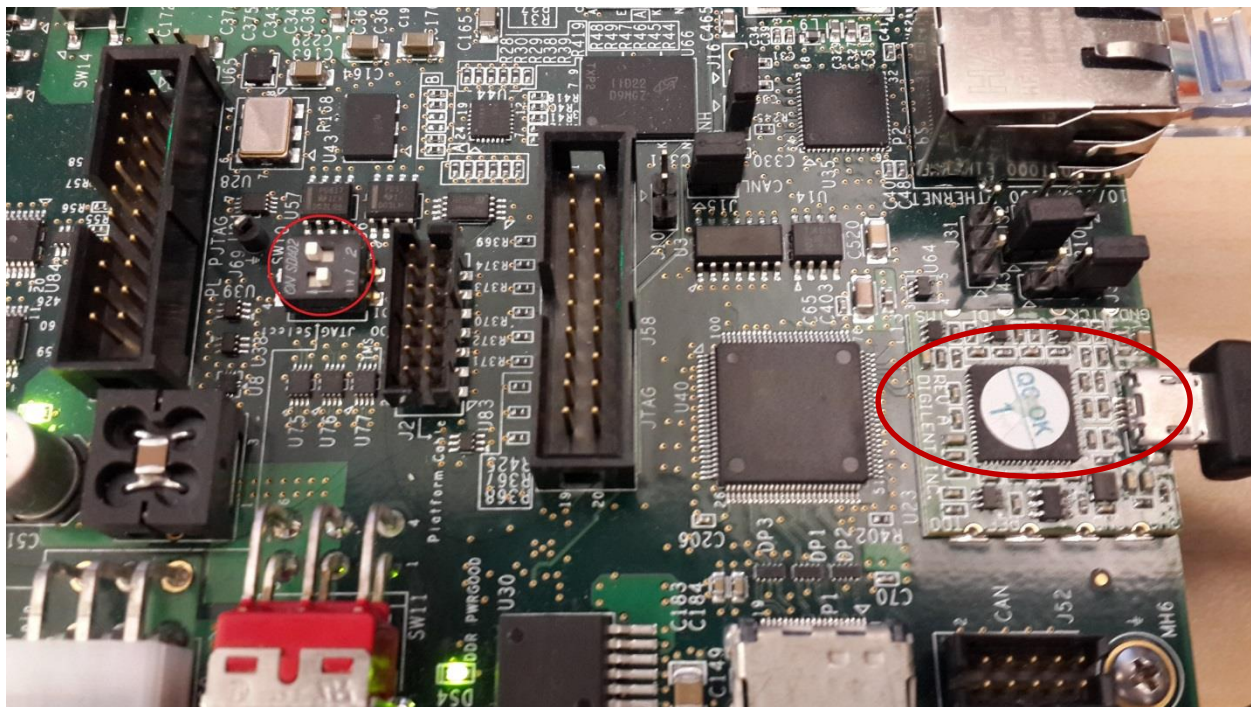

Figure 25. JTAG mode settings and MicroUSB connection
- Make sure the JTAG mode is set to use the Digilent cable, and the microUSB cable is connected as shown in Figure 25.